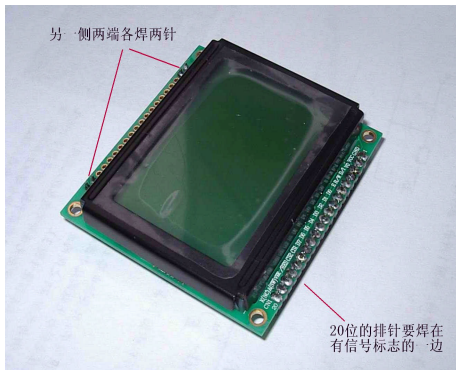

Fig. 3
7. When install the LCD panel solder pins to LCD module first (Fig. 3 & 4). The long row of pins should be placed at the side with signal labels. Since there are same holds on both side of the module it is easy to misplace pins to the other side. **AVOID THIS!!!**